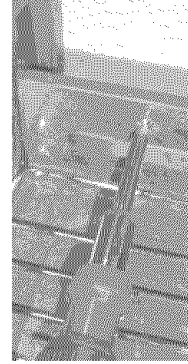

Fig. 1
2. Pull the drawer away from the oven. Using a phillips-head screwdriver remove the two drawer screws from the insides of the front oven drawer compartment -*Fig. 1*-.